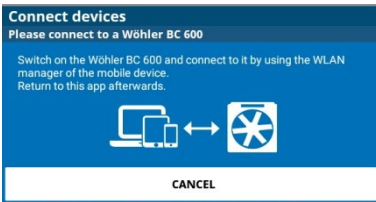

Fig. 38: Device connection
- To select this mode, stop measurements and tap the field "Pressure Difference (Target)" (see Fig. 38).
- In the measurement view LEAKAGE TEST (see Fig. 38: Measurement view–leakage test) go to the field ESTIMATED V50- VALUE.